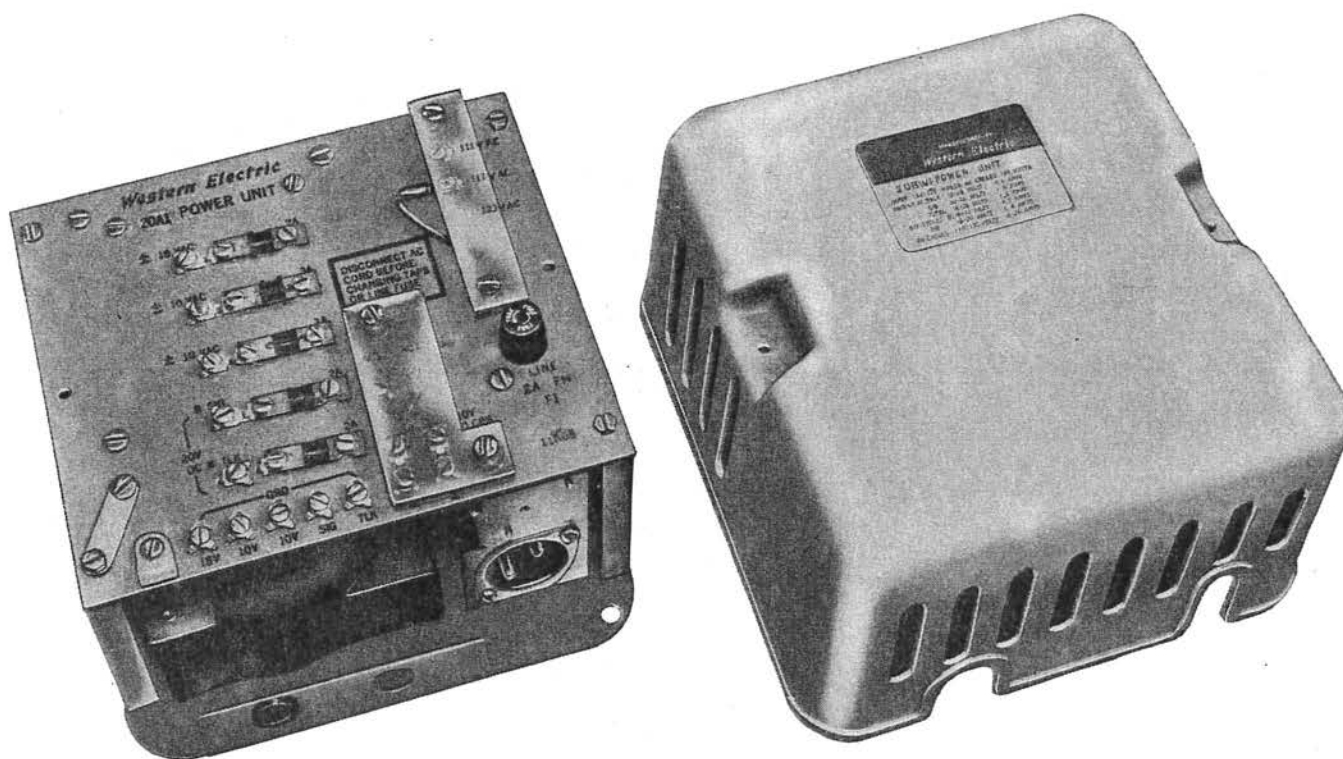

Fig. 1
**20BW2:** Same as 19BW2 Power Unit except in addition, equipped with a 113A Frequency Generator within the unit for ringing power. See Fig. 1.